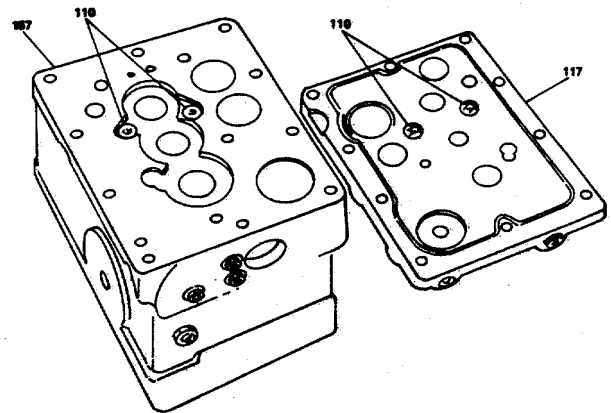

Figure 12-7. Check Valve Installation
- (2) Install check valves (110) in the case (157) bottom and base (117) as shown in figure 12-7.
- (3) Assembly floating lever and